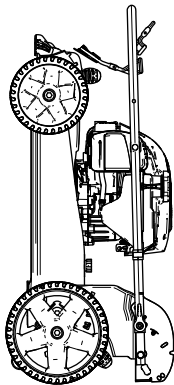

Figure 21
- Lift the front of the machine by the handle and move it into a storage space (Figure 21).